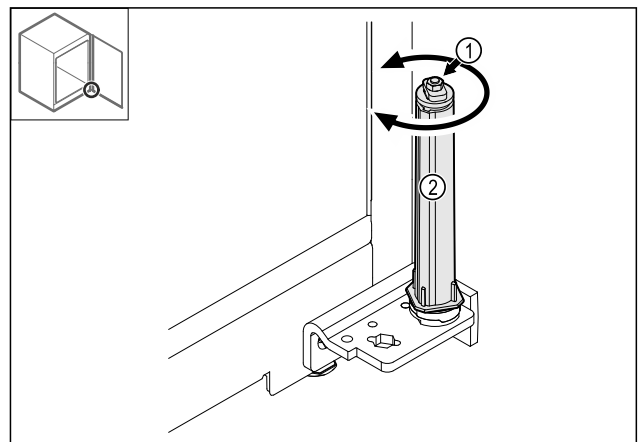

Fig. 43
- Do not disassemble the screw connection Fig. 43 (1) of the closing system.
- Turn the closing system Fig. 43 (2) until it clicks.